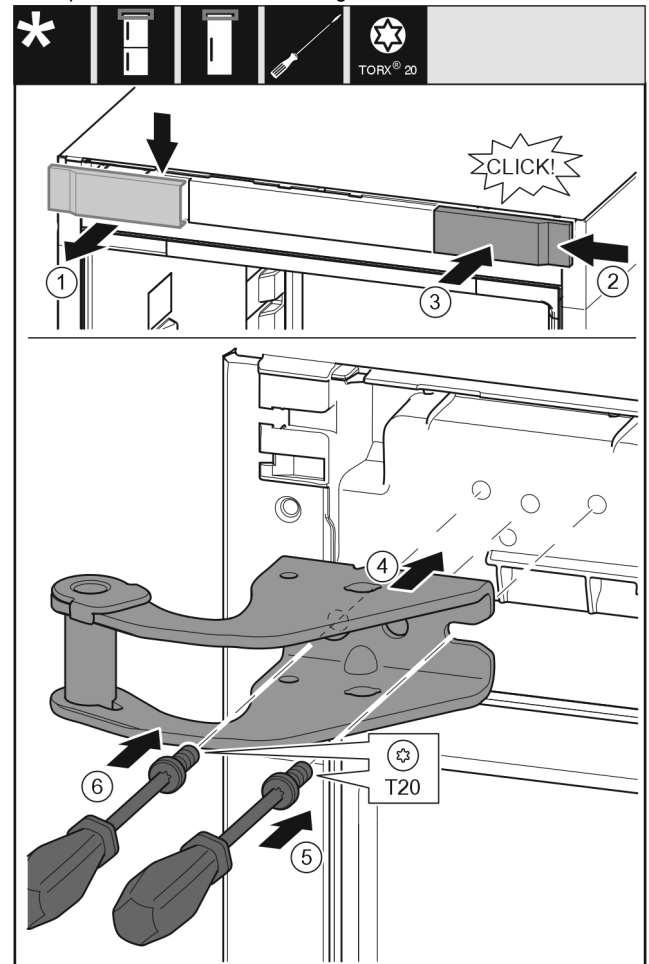

Fig. 9
- ▶ Take off the cover from above to the front. Fig. 9 (1)
- ▶ Rotate the cover 180° and clip onto the other side from the right. Fig. 9 (2)
- ▶ Latch the cover into place. Fig. 9 (3)
- ▶ Position the upper bearing bracket. Fig. 9 (4)
- ▶ Insert the screw with a T20 screwdriver and tighten it. Fig. 9 (5)
- ▶ Insert the screw with a T20 screwdriver and tighten it. *Fig. 9 (6)*